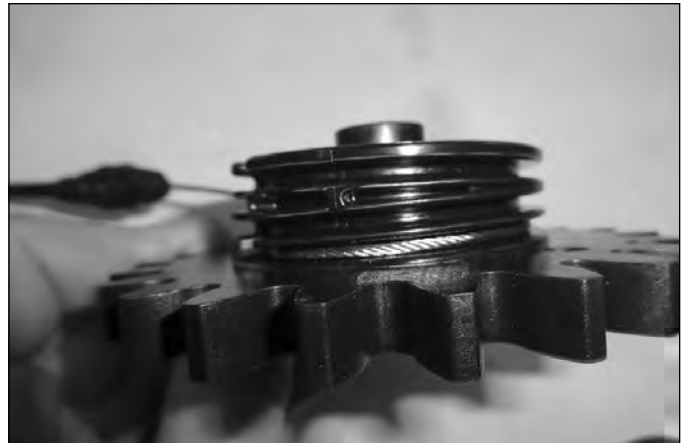

Fig. 027
7. Wrap the cable around the bottom of the spool (Fig. 027).